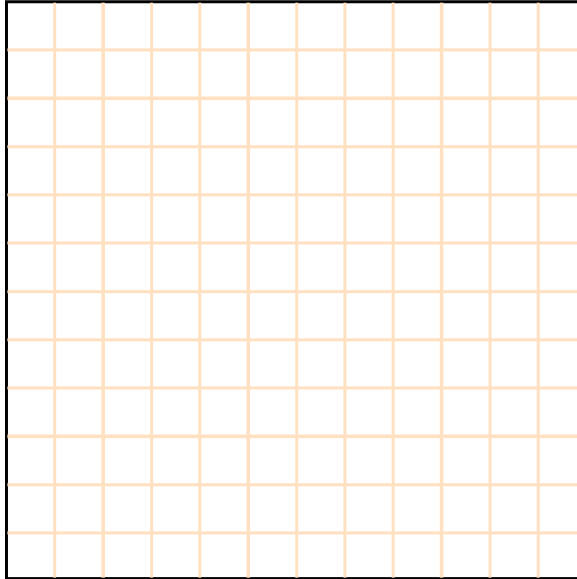

Figure 1-14. Linear and S-curve acceleration characteristics.
- 20. Plot the curves showing the linear and S-curve acceleration characteristics in Figure 1-14. Place the Time in the X-axis, and the Frequency in the Y-axis.